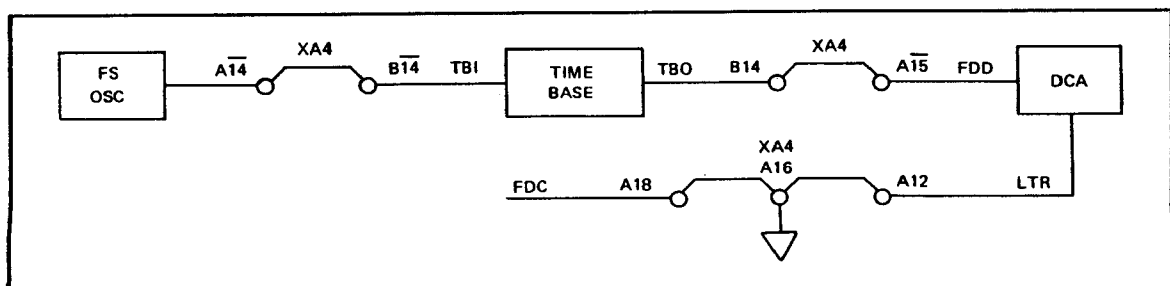

Figure 8-A-3. Test Card 1, Test 2 Setup
**SETUP:** Set up equipment for this test as shown in Figure 8-A-3.